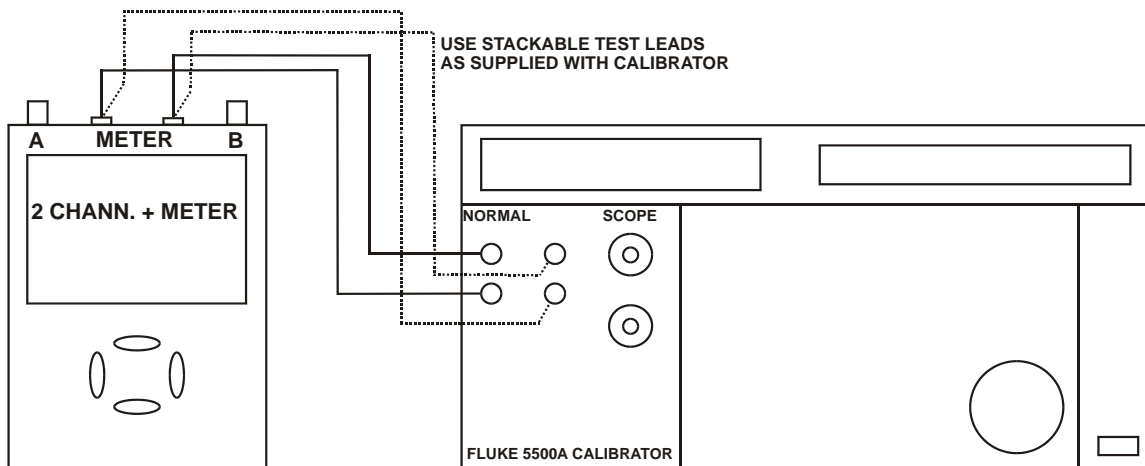

Figure 5-18. Four-wire Ohms calibration connections
4. Connect the test tool to the 5500A as shown in Figure 5-18.